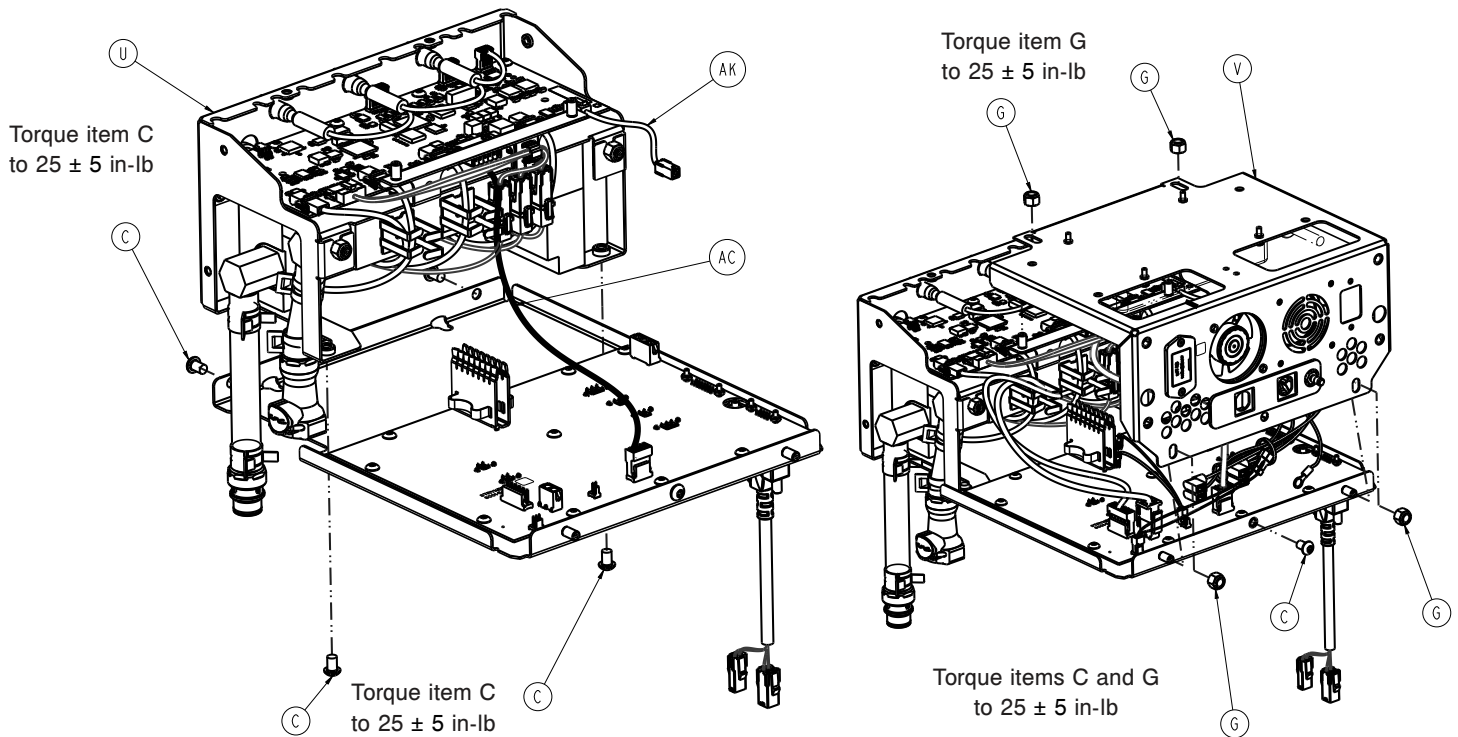

Figure 39 – Manifold assembly
17. Using a T27 torx, remove the four screws (C) that secure the manifold assembly (U) to control assembly (Figure 39).